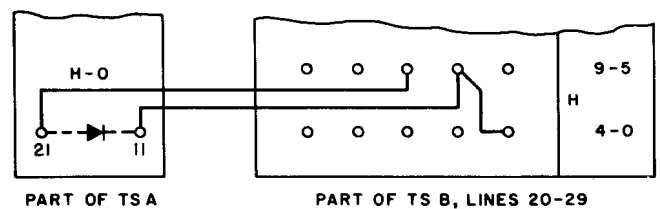

Fig. 10 - Combination of One- and Two-Way Nonsequential Hunting Group Consisting of Station Lines 20, 26, and 27
2.12 A combined hunting group is formed by providing straps and H diodes between the H terminals of the lines included in the group to produce the desired hunting pattern. For example as shown in Fig. 10, if line 20 is dialed and found busy, call will be completed to line 26, if idle. If line 26 is dialed and found busy, call will be completed to line 20, if idle. If line 27 is dialed and found busy, call will be completed indiscriminately to whichever of the other two lines is idle.